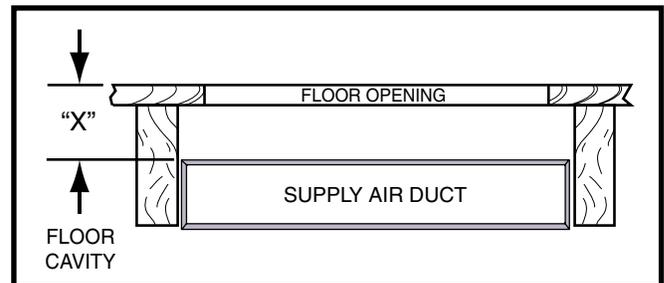

Figure 7. Floor Cavity
**NOTE:** The depth of the floor cavity (shown as "X" in Figure 7) will determine the correct duct connector.